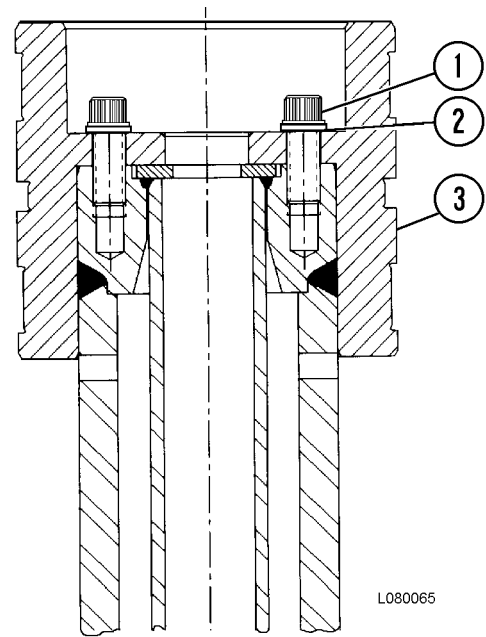

FIGURE 8-22. 3rd STAGE PISTON
3. Mount the housing (4) in the fixture with the cover end positioned at the top. Install bearings (19) and buffer seal (18), rod seal (20) and rod wiper (21) in the housing.
5. Install bearings (13) on the first stage cylinder (3). Lift and align this assembly over the housing (4). Lower the second and first stage cylinders into the housing.
7. Install bearings (19) and buffer seal (18), rod seal (20) and rod wiper (21) in the second stage cylinder (2).
8. Attach a lifting device to the rod eye (1) and align it over the housing (4). Lower the rod into the housing. Lubricate the rod with hydraulic oil.
9. Rotate housing 180° to position the cover end at the top. Remove retainer installed in Step 5. Install bearings (17) and seal (16) on the rod bearing retainer (6).
10. Thread two guide bolts 4 in. (100 mm) long in the end of the rod (1). Install seal (8) on the end of the rod.
11. Align piston rod bearing retainer (6) over guide bolts and lower it over the end of the rod (1). Remove guide bolts.
12. Make certain threads on capscrews (1, Figure 8-22) and threads in rod are clean and dry (free of oil and solvent).